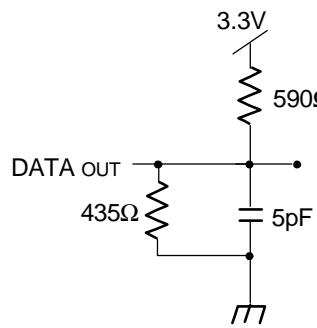

Figure 2. Output Test Load
1. Transition is measured 0mV from Low- or High-impedance voltage with Output Test Load (Figure 2).
7. This parameter is determined by device characterization, but is not production tested. Transition is measured 0mV from steady state with the Output Test Load (Figure 2).